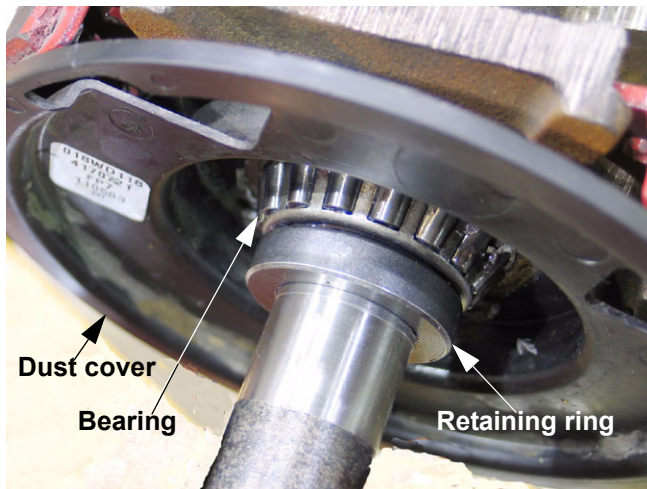

Figure 14.18
- 14.18. Pack the bearing with good quality wheel bearing grease, and install the bearing on the axle. See Figure 14.18.